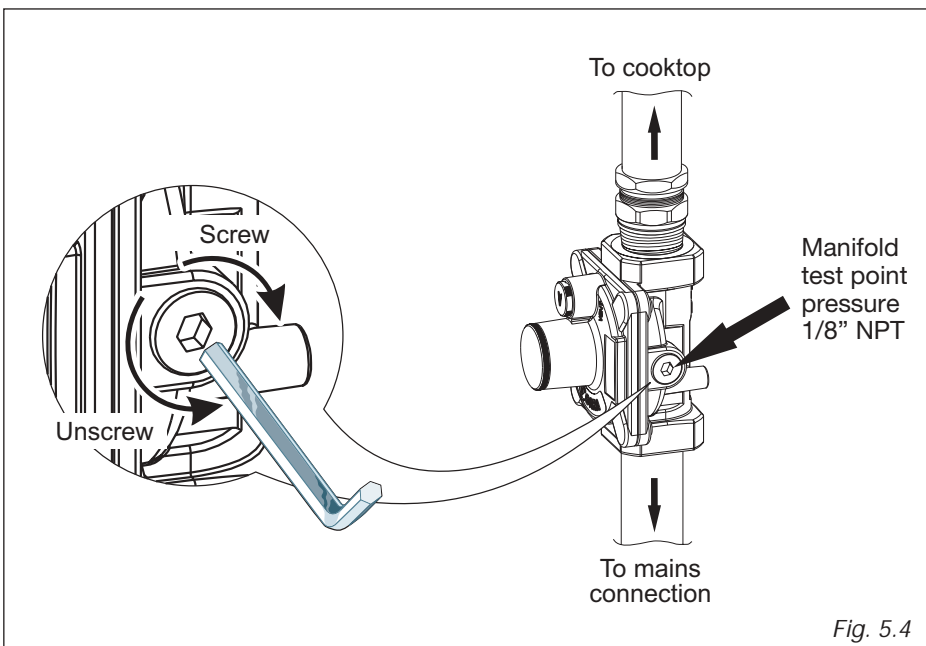

Fig. 5.4
- d) Manifold pressure should be checked with a manometer; NATURAL gas requires 4.0" W.C.P. and LP/PROPANE requires 11.0" W.C.P (see figure 5.4).